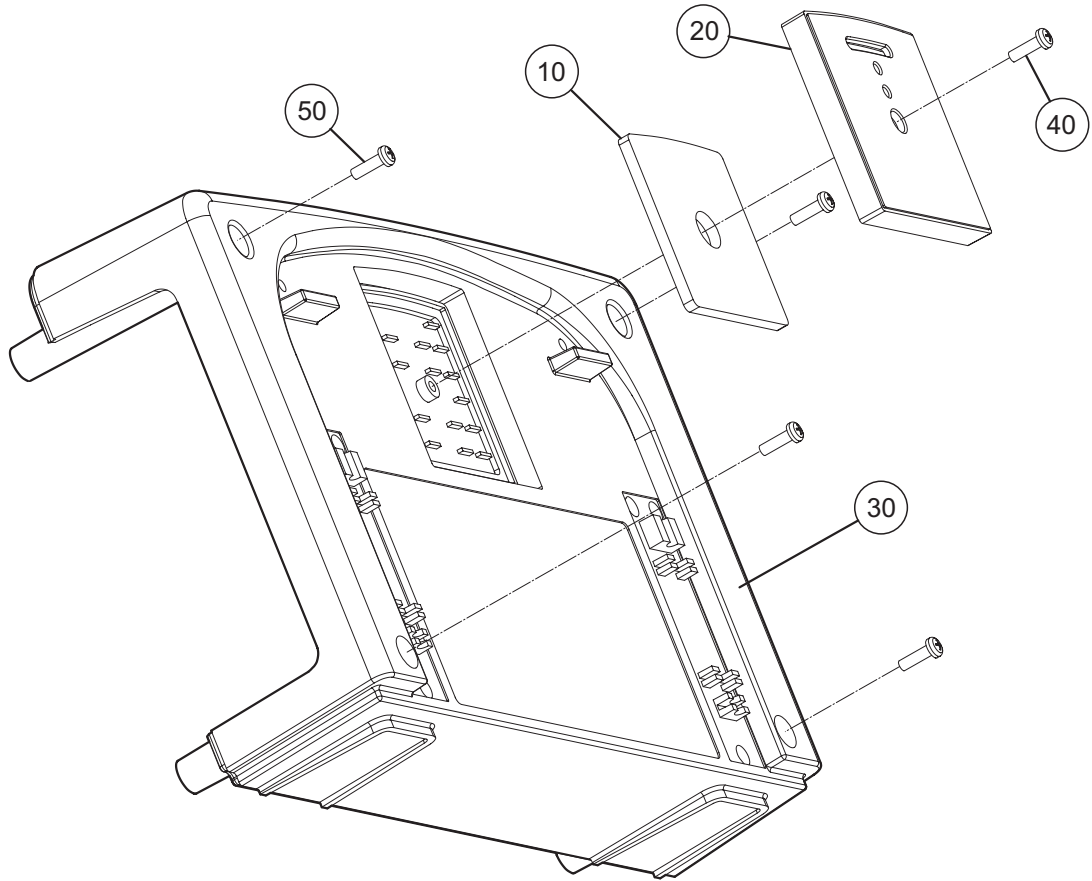

Figure 3 - Removing and Replacing the Pump Filter
- 4.1 Remove the centre screw (Fig 3, Item 40) retaining the filter plate (Fig 3, Item 20) in the rear case (Fig 3, Item 30).
- 4.2 Carefully remove the filter plate and felt filter (Fig 3, Item 10) from the rear case. Discard the old filter.
- 5.1 Install a new filter (Fig 3, Item 10) in the filter plate (Fig 3, Item 20) ensuring that the curved edge is at the top.
- 5.2 Ensure that the filter is correctly positioned over the boss in the filter plate then fit the filter plate to the rear case (Fig 3, Item 30) and secure with the screw (Fig 3, Item 40).
- 6.3 Unscrew and remove the four corner screws (Fig 3, Item 50).
- 6.4 Carefully remove the rear case assembly (Fig 3, Item 30) from the case front.